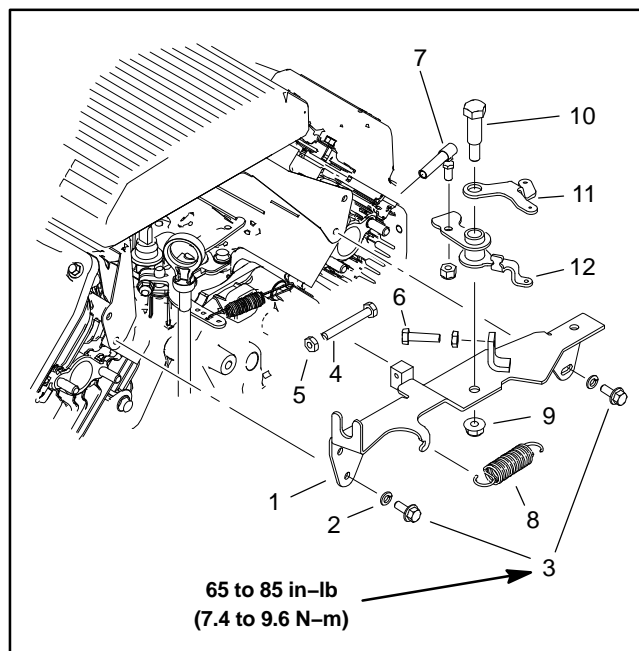

Figure 17
7. Remove throttle bracket assembly if necessary (Fig. 17).
3. Install throttle bracket assembly if removed (Fig. 17). Tighten mounting screws from **65 to 85 in-lb (7.4 to 9.6 N-m)**.
C. Place two (2) button head screws (item 14) in position in sprocket adapter (item 16). Install sprocket adapter and lock nut on engine shaft. Make sure sprocket adapter is fully engaged with sprocket and tighten lock nut from **100 to 130 ft-lb (136 to 176 N-m)**.